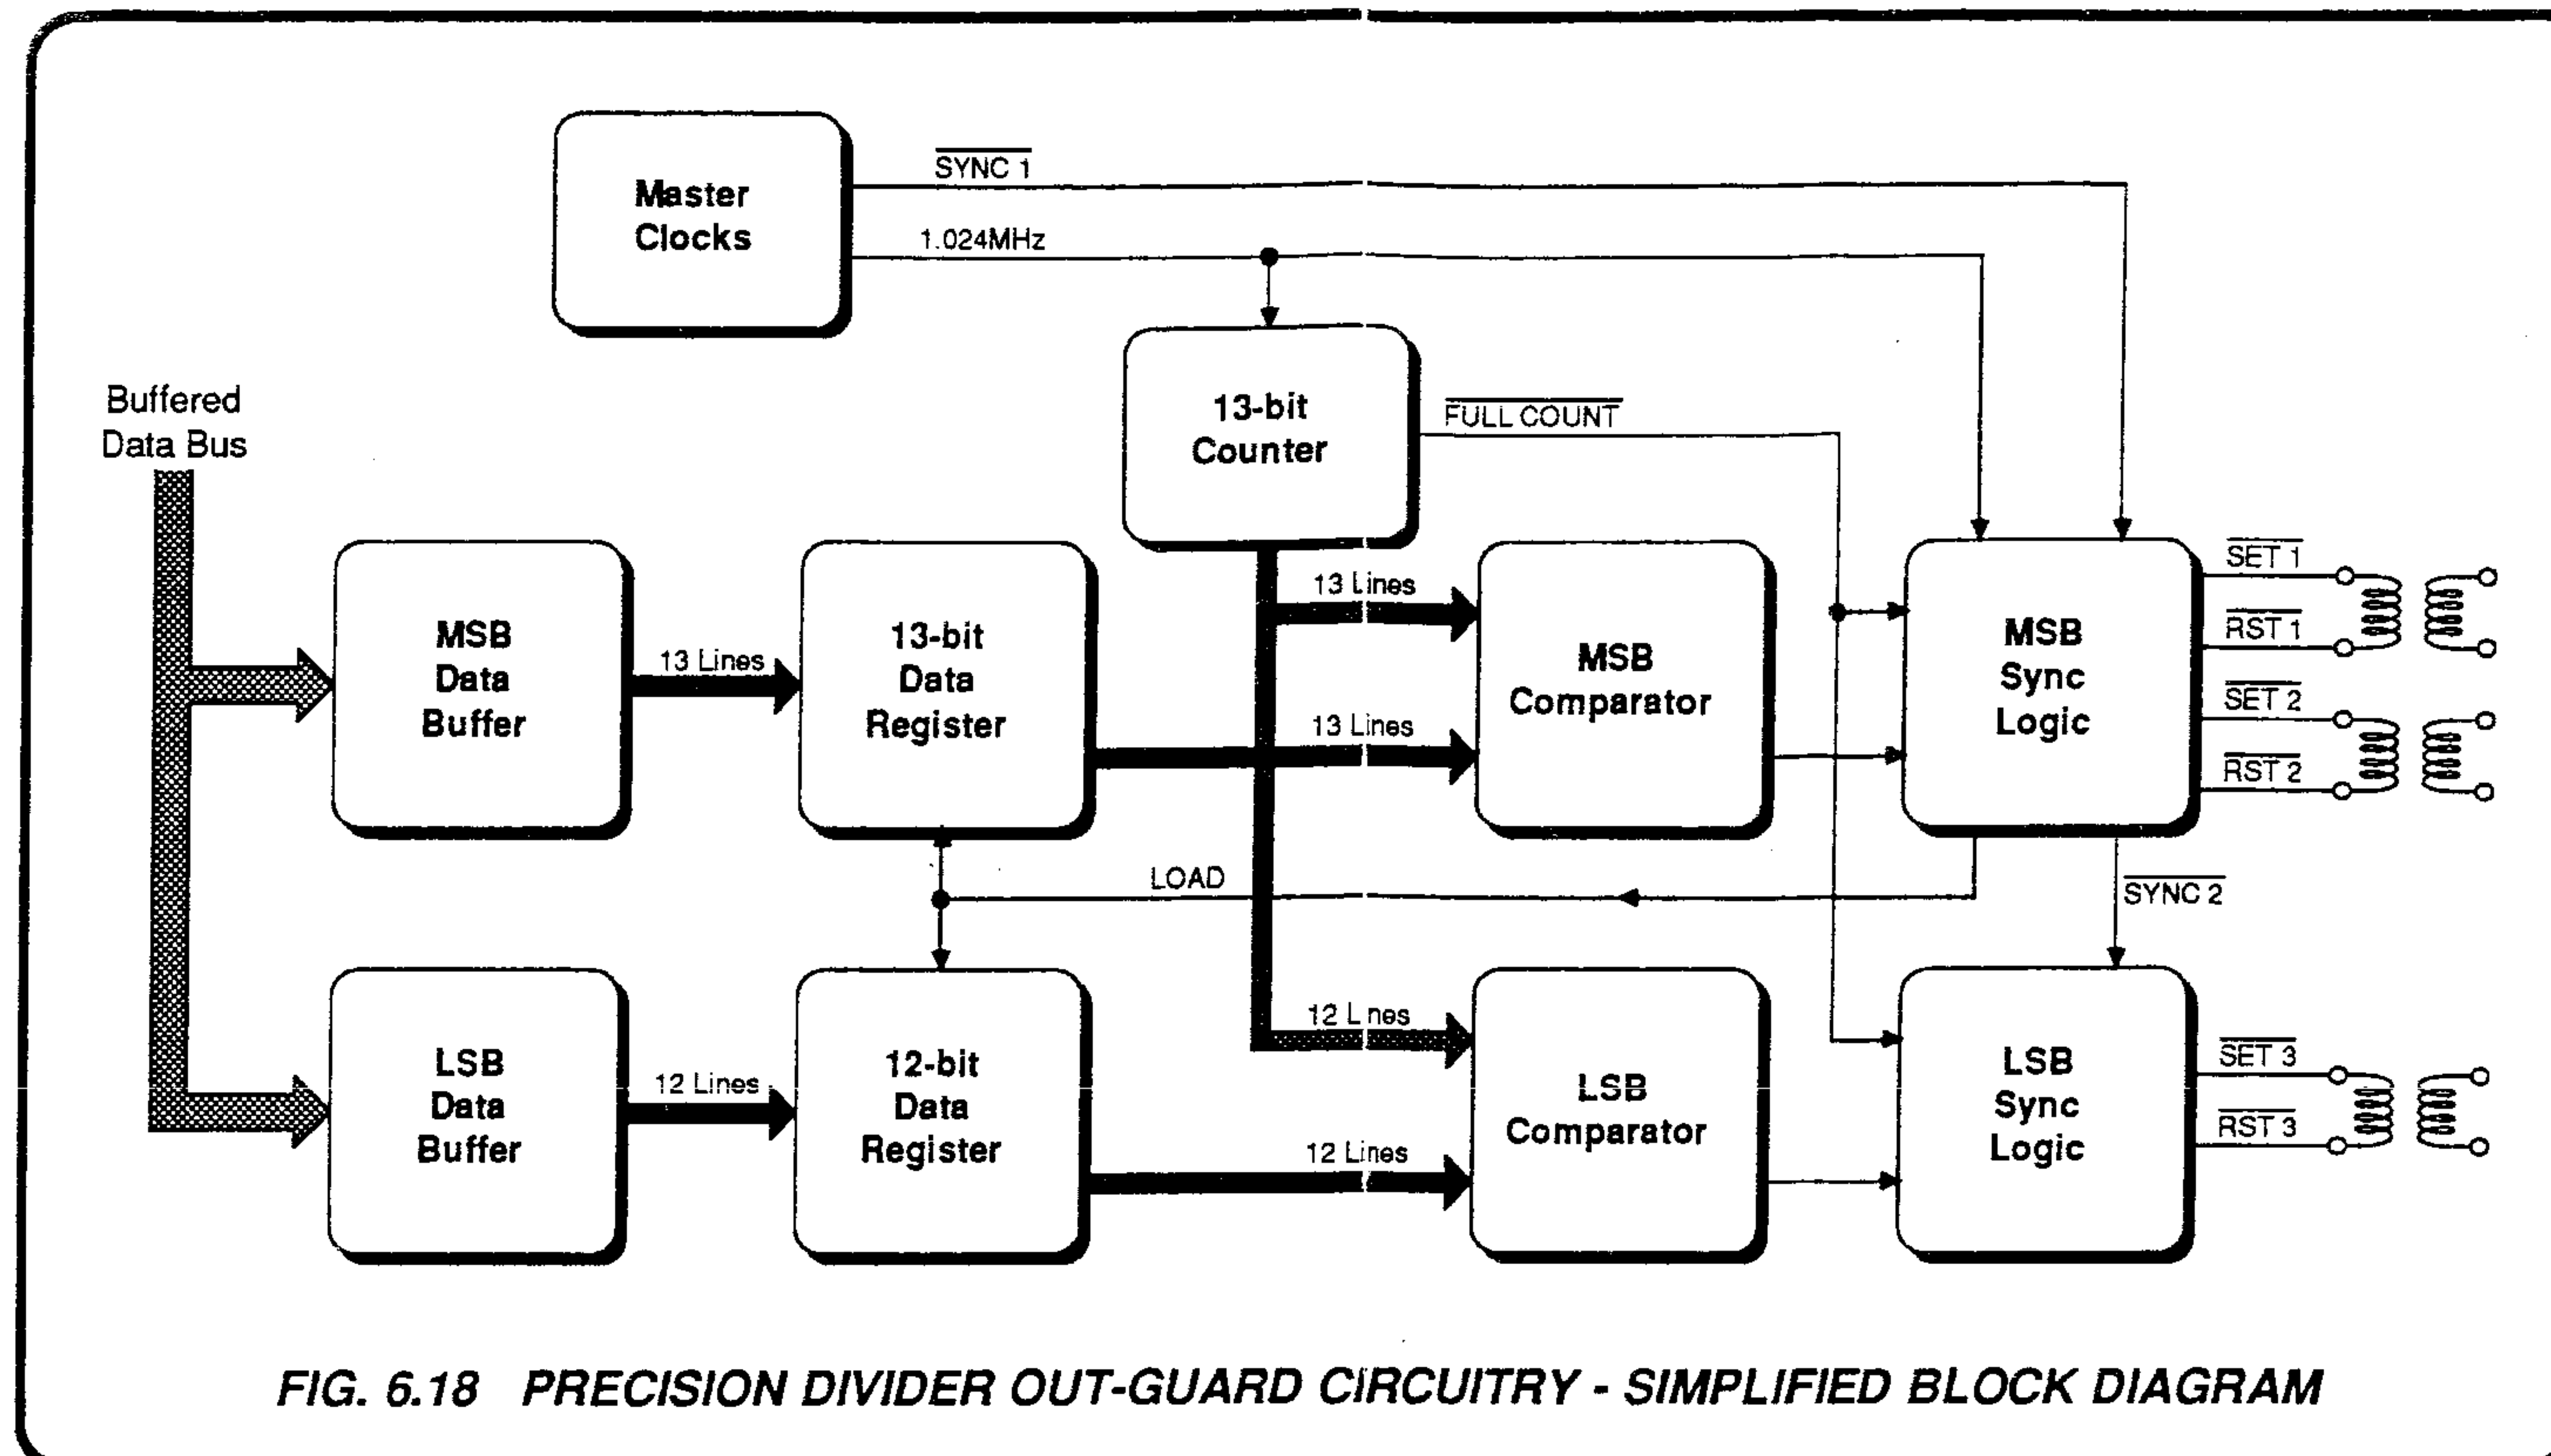

FIG. 6.18 PRECISION DIVIDER OUT-GUARD CIRCUITRY - SIMPLIFIED BLOCK DIAGRAM
6.5.1.1 General (*Figs. 6.18 and 6.19*)
6.5.1.2 Comparator Operation (*Fig. 6.18*)